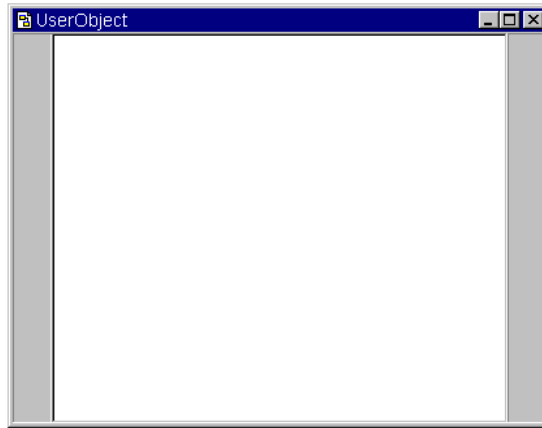

Figure 2-1. UserObject Window
- Select `Device` $\Rightarrow$ `UserObject` from the menu bar to bring up an empty `UserObject` icon in the Main window, and add objects to it. If you double-click the `UserObject` icon, it is displayed in open view, as shown in Figure 2-1.